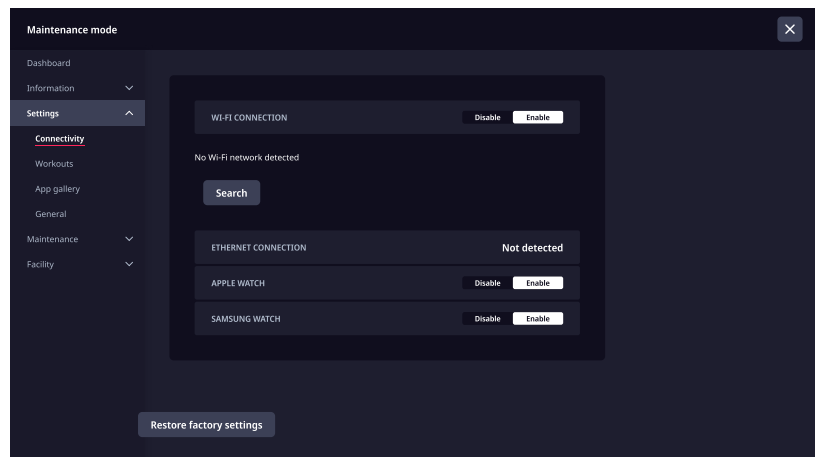

Fig. 59 Shown with Wi-Fi disabled and no Ethernet connection
1. From the Connectivity sub-menu tap **Enable** on Wi-Fi Connection to enable Wi-Fi or reset Wi-Fi connection. Button will illuminate. (Fig. 59)